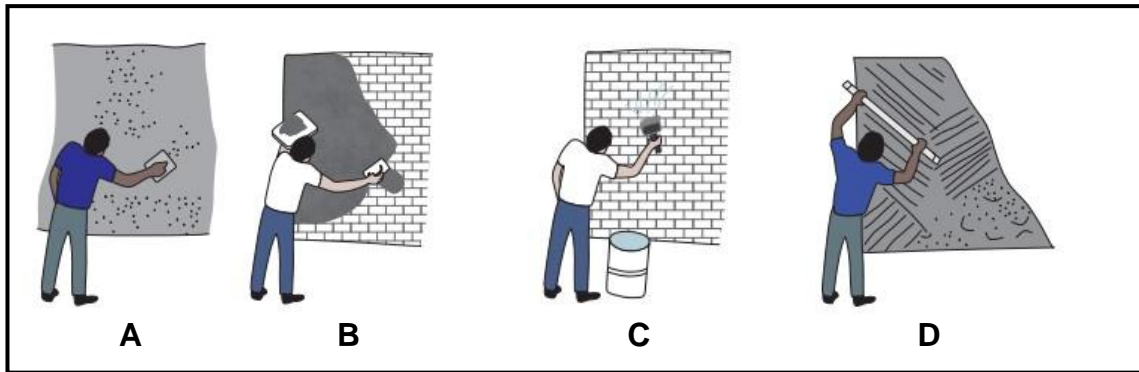

FIGURE 5.1
5.1 The pictures in FIGURE 5.1 below show steps of a building process. Study the pictures and answer the questions that follow.